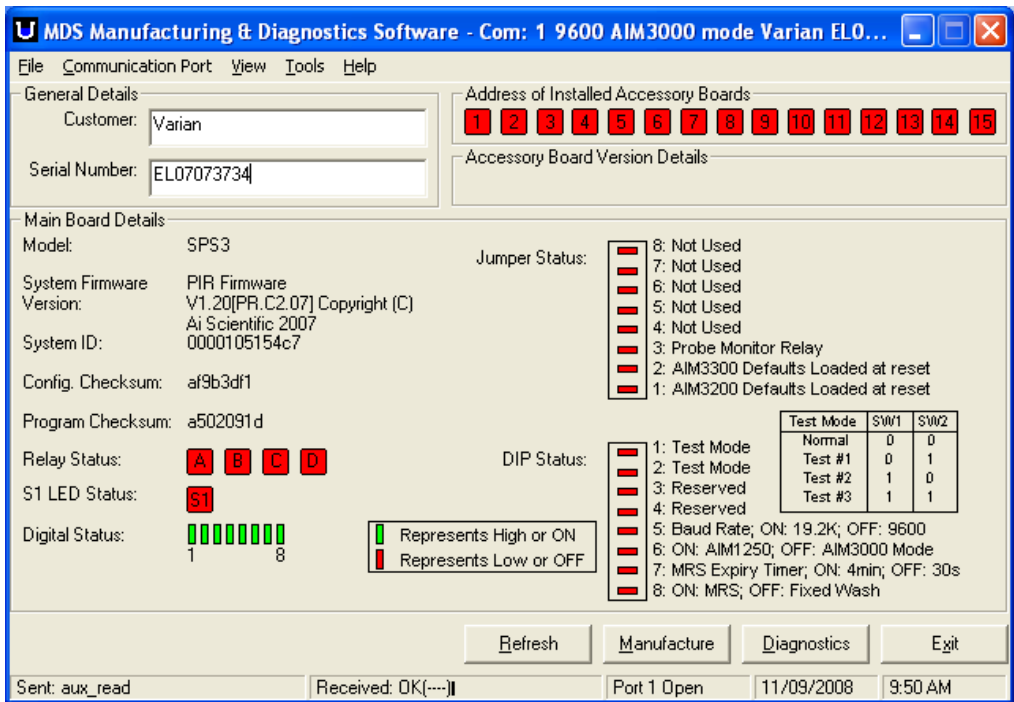

Figure 29. Varian MDS software
3. Open up the SPS MDS and check the main screen (Figure. 29) for correct DIP and Jumper settings. This also displays the current Main Board Firmware and Accessory Board Firmware. You may be prompted to check your communications port settings.